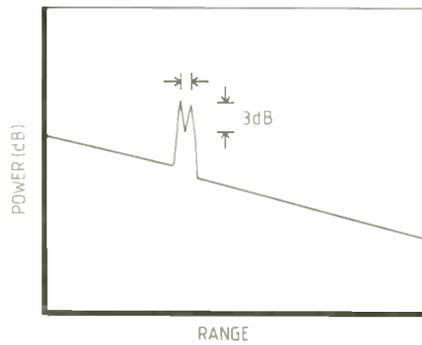

**Fig.4. Dynamic range is the difference in power levels between initial backscattering and noise.**
Performance of an o.t.d.r. can be specified using a set of parameters that describe the quality of the measurement. Figures 4 and 5 depict some of the key features of a backscattering impulse response that can be used to define and describe these key performance parameters.
**Dynamic range.** The dynamic range is a measurement of the range of optical power levels over which useful measurements of backscattering impulse response can be made. It is usually defined as the range from the initial backscattering level of the noise, Fig.4. Since the initial backscattering level